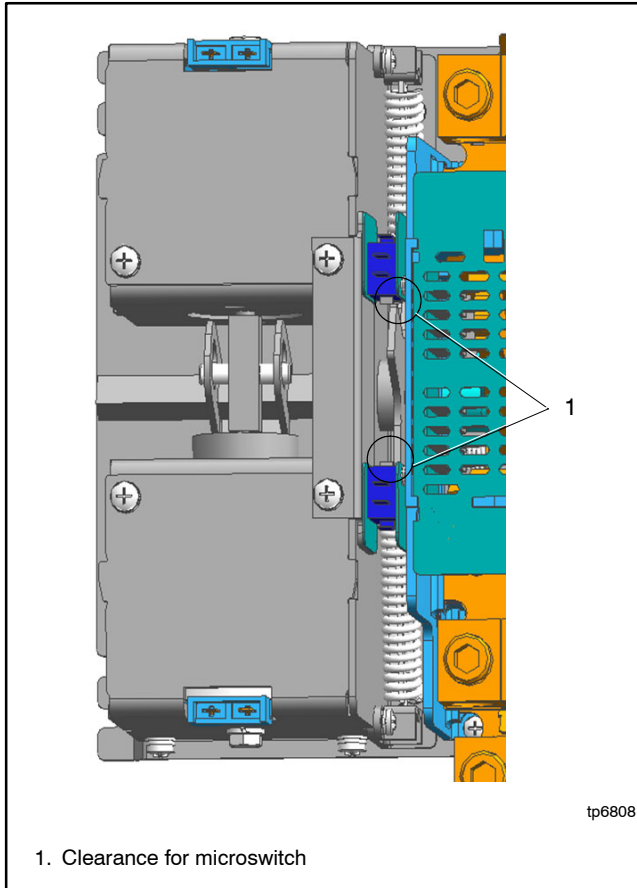

Figure 7-76 Microswitch Clearance
5. Make sure the degree of the clearance for both microswitches is the same. See Figure 7-76. For details, refer to step 3 in **Microswitch Assembly**.